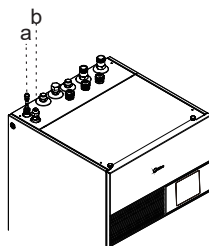

Fig.6-6
- If the indoor unit is matched with outdoor unit (4/6 kW), the transfer 9.52-6.35(Refer to the table in Page 8) should be mounted on the refrigerant liquid connection of indoor unit (Refer to Fig.6-6); The transfer is not used in other types of outdoor unit (8/10/12/14/16 kW).